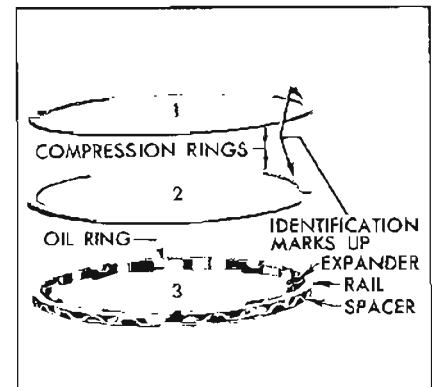

Figure 2-53—V-6 Piston Rings
(a) Assemble press as shown in Figure 2-53. Install Piston Pin pilot J-6047-20 in base. Install support with full radial face up. Set spring in support.
9. Install V-6 piston rings as shown in Figure 2-53. Position expander ends over piston pin. Install oil ring rail spacer, and oil ring rails. Position gaps in rails "up" on same side of piston as oil spurt hole in connecting rod. Install compression rings in upper two grooves. If a single chrome plated compression ring is used, the chrome ring must be installed in the top groove.